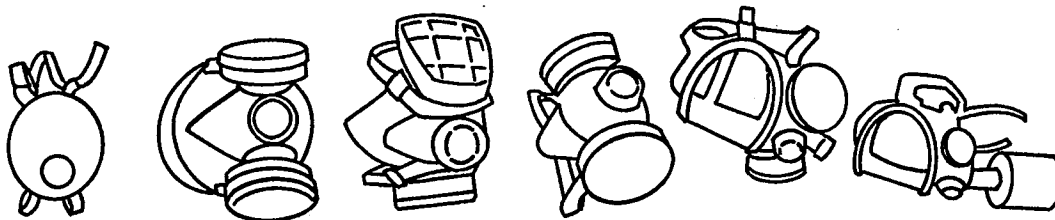

Figure 16. Various Possible Respirators
6.6 **Respiratory Protection** - A respiratory program **shall** be implemented when there is a reasonable chance that an injury can be prevented by such a program (Figures 16, 17).